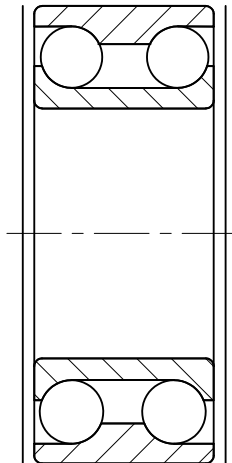

Figure 2-8 The modified xref BEARING drawing
3. Open the BEARING drawing and make the changes shown in Figure 2-8 (draw polylines on the sides). Now, save the drawing with the file name BEARING.